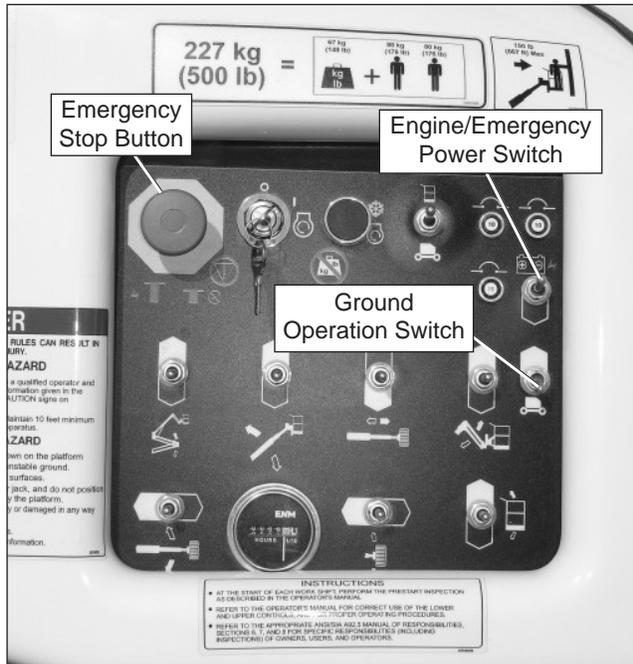

Figure 4.1 – Lower Controls
At the lower controls, the emergency stop is a two-position push button (refer to Figure 4.1).
- Hold the emergency power switch (refer to Figures 4.1 and 4.2) in the direction of the white arrow to activate the emergency power system.
The ground operation switch (refer to Figure 4.1) prevents boom and platform movement if a control switch on the lower control panel is accidentally moved.